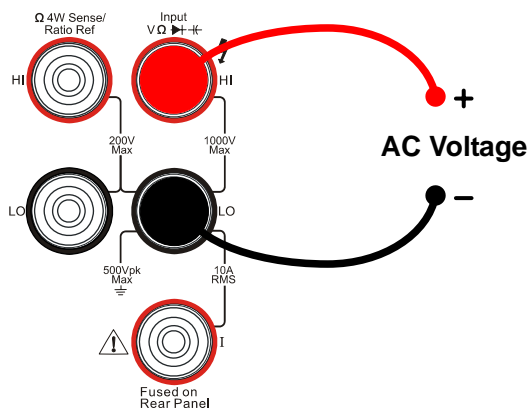

Figure 1-11
1. Connect test leads as Figure 1-11 shown. Red test lead connects the HI Terminal, Black test lead connects the LO Terminal.